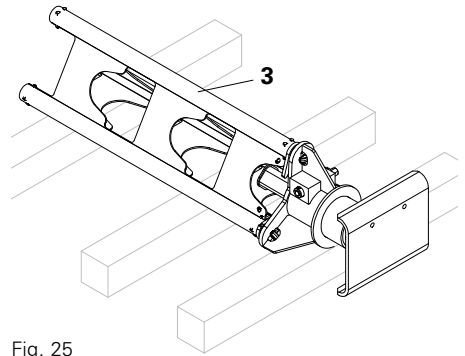

Fig. 25
1. Place the Prop Segment (3) with Lowering Device HDA on timbers. (Fig. 25)